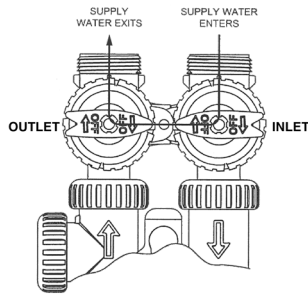

FIG. 3
- 3. Fill Position**— During initial start up, the media tank will need to be filled with water. Slowly open the inlet handle to be partially open; handle arrow should point at a 30°-45° angle from the closed position. The outlet handle should remain closed, pointing toward the center of the bypass. (See Fig. 3)
- **Unplug** power cord from 120/60 outlet. Rotate inlet side of bypass partially open so water enters system slowly, as shown in **Fig. 3** on page 4. Continue to until water is flowing from drain pipe at a steady pace and without any air; this indicated that the media tank is completely full.